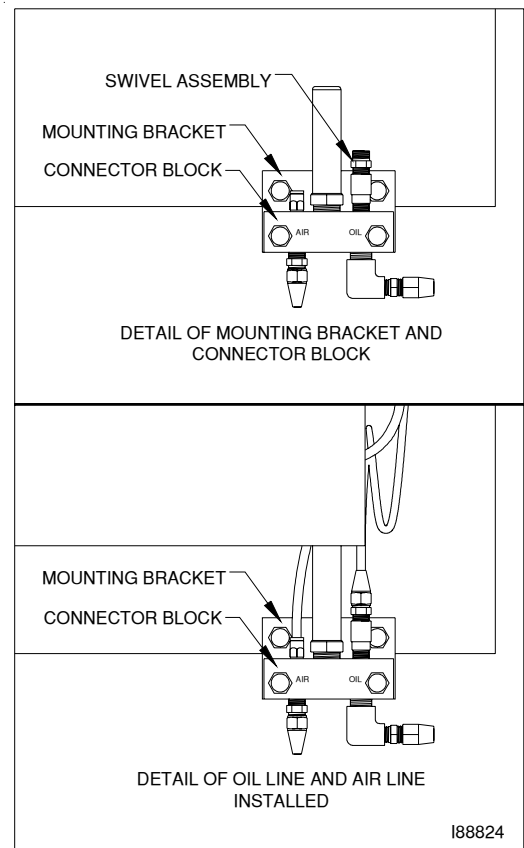

Figure 3F - Installation of Connector Block
1. Refer to Figure 3F.
2. Install the mounting bracket on the furnace cabinet using the two (2) bolts supplied.
3. Install the connector block on the mounting bracket using the two (2) carriage bolts supplied.